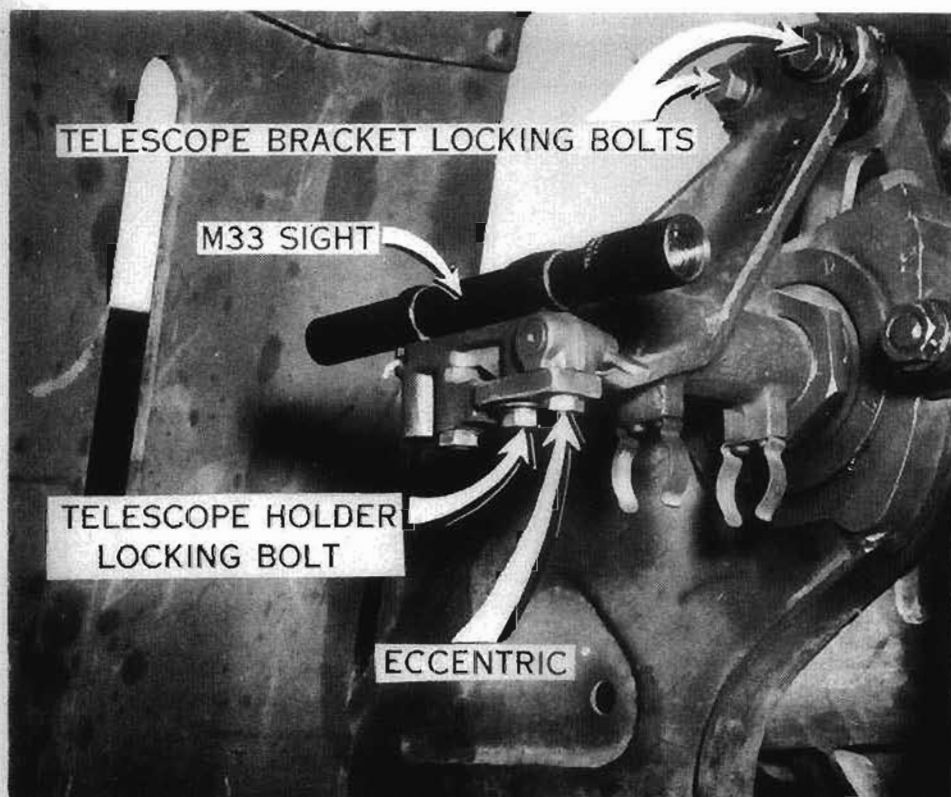

Figure 44
- 1. Fixed mount; no leveling bubbles (fig. 44).